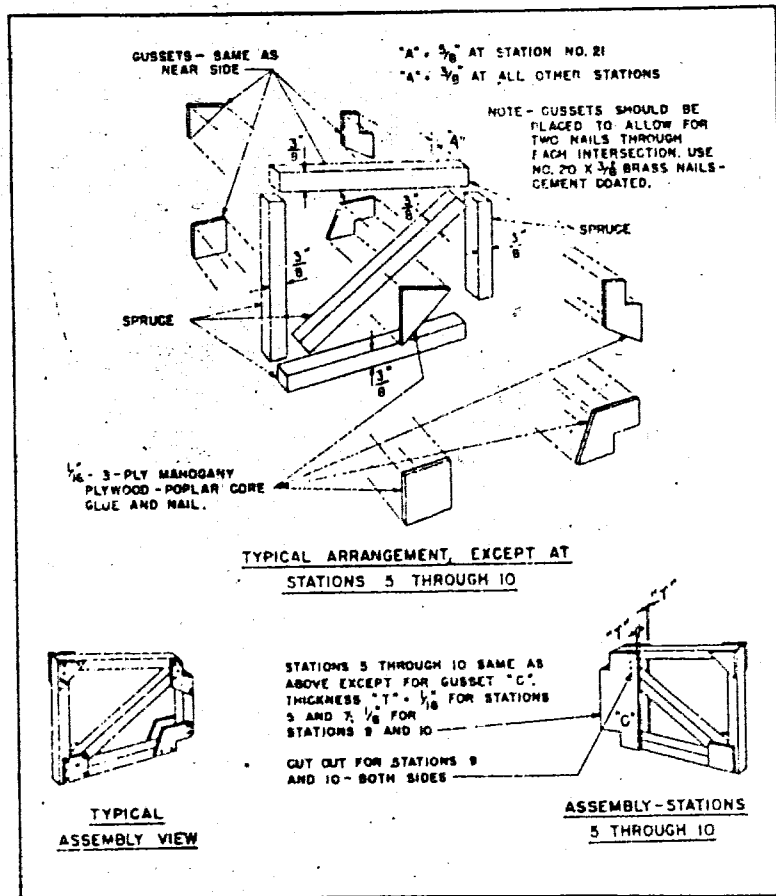

Figure 15—Butt Ribs
REMOVED OLD WING SKIN. INSPECTED REMAINING STRUCTURE FOR DRY ROT, NONE NOTED, BUT FOUND REAR SPAR DELAMINATED, INSPECTED ALL METAL FITTINGS FOR CORROSION, CLEANED AND PRIMED. FABRICATED NEW RIBS AFT OF REAR SPAR I/A/W FIG. 15 & TABLE III OF SITKA SPRUCE. FABRICATED NEW REAR SPAR OF LAMINATED SITKA SPRUCE I/A/W PAGE 9, PARA 4. REPAIRED ALL LOWER SURFACE RIB GUSSETS AND OTHER MISC. RIB GUSSETS I/A/W PG. 13, PARA. 7d (1)(b). INSTALLED APPROX. 1/4 OF THE UPPER XXXX STRINGERS AND ALL LOWER STRINGERS I/A/W PG. 18, PARA. 9. FABRICATED NEW BUTT RIB OF SITKA SPRUCE. INSTALLED ALL NEW CORNER BLOCKS. REPAIRED LEADING EDGE AND TIP BOW WITH SITKA SPRUCE. INSTALLED NEW HINGE BEARINGS. RE-SKINNED WITH 1/16 90° AIRCRAFT MAHOGANY PLY., MIL SPEC P-6070, I/A/W PG. 5, PARA. 2.8. WELDWOOD RESORCINAL GLUE USED THROUGHOUT. PRESERVED WITH POLYURETHANE VARNISH.